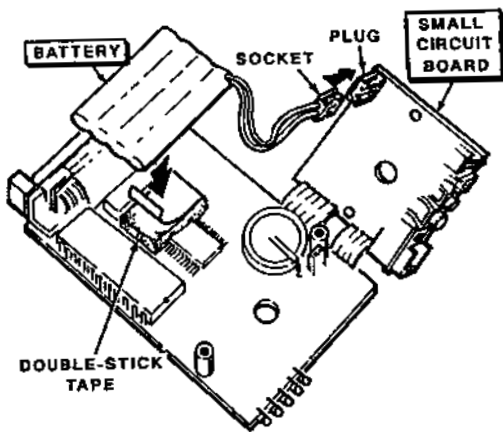

Figure 1-9
- () Carefully position the smaller circuit board beside the larger circuit board as shown in Figure 1-9. Do not flex the interconnecting ribbon cable any more than necessary.
- () Carefully peel the backing paper from one side of the double-stick tape. Then refer again to Figure 1-9 and press the tape onto the larger circuit board in the area shown.